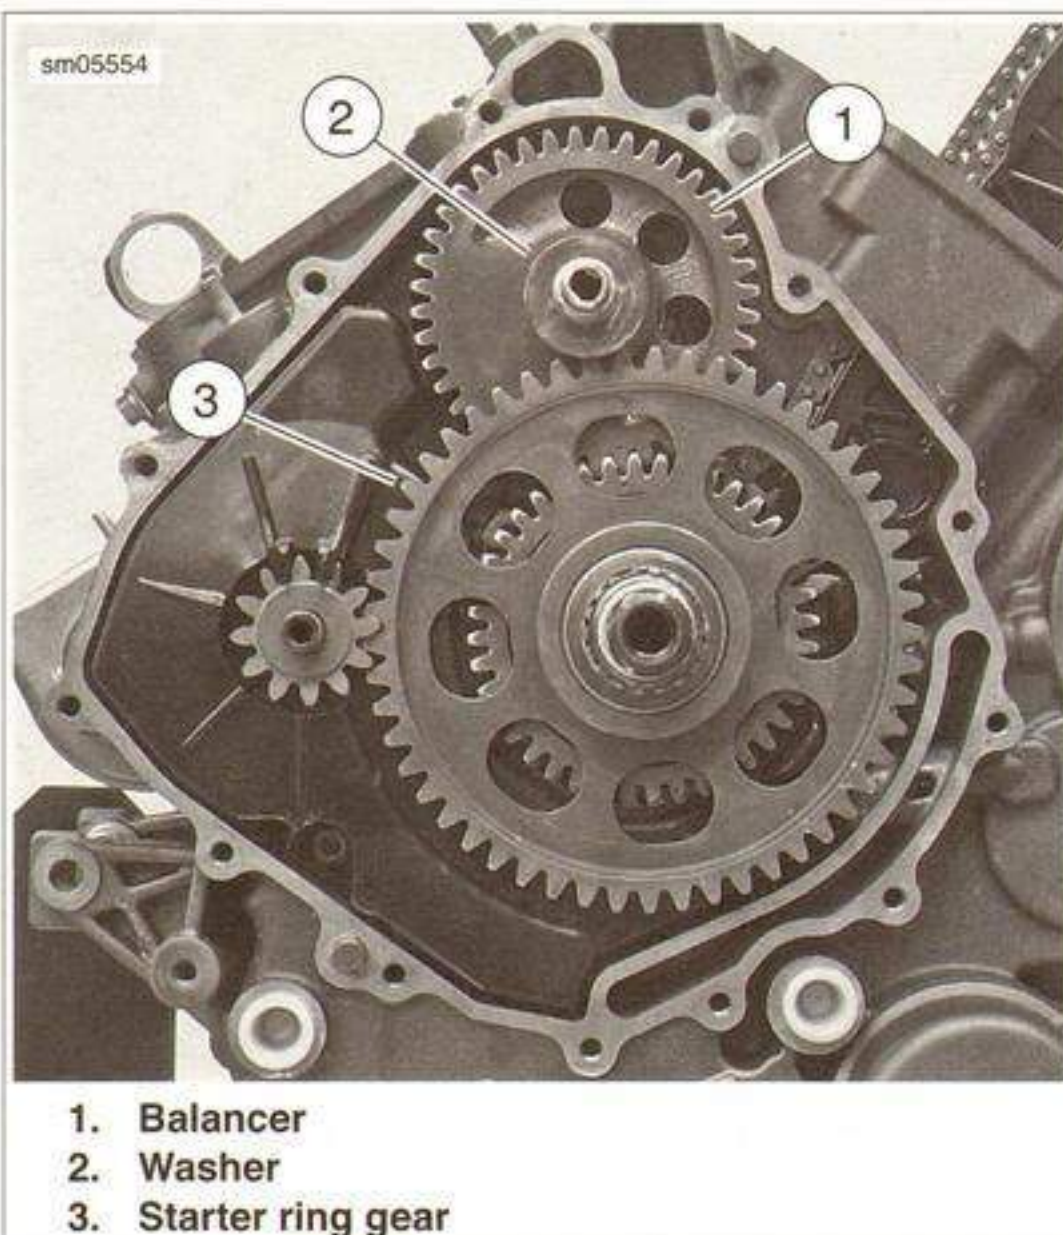

Figure 3-149. Balancer and Starter Ring Gear
1. See Figure 3-149. Remove the washer (2) from the balancer shaft (1).
2. Remove the starter ring gear (3).